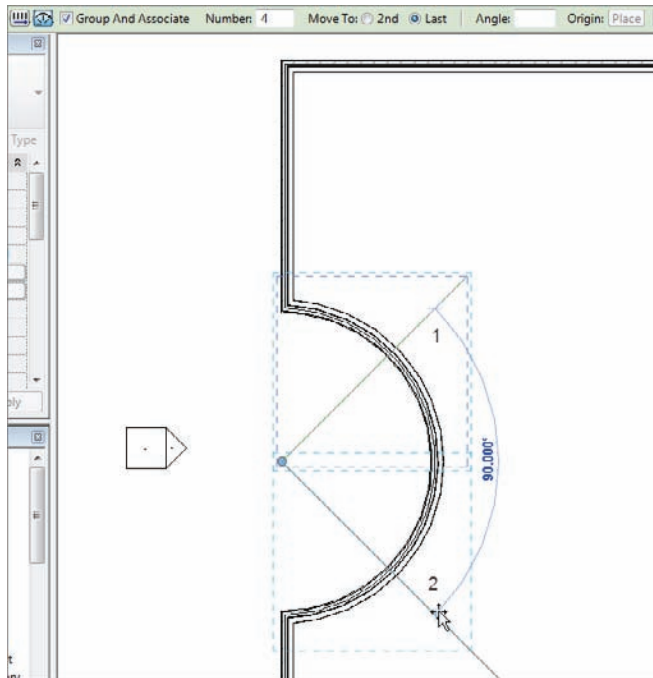

FIGURE 4.14 Specifying the two angles for the Radial array
12. Move your cursor down until you see 90 degrees. Then pick the second point (see Figure 4.14).